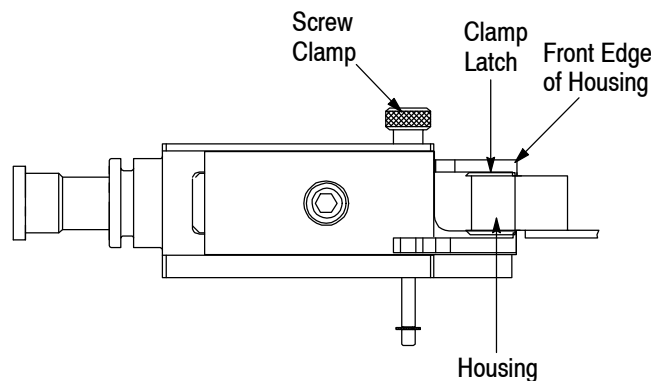

Figure 2
2. Position the removal tool over the connector as shown in Figure 2.
3. Using the screw clamp, close the upper clamp onto the housing until the latches on the clamps lock behind the front edge of the housing and the connector is held firmly with the tool. See Figure 2.